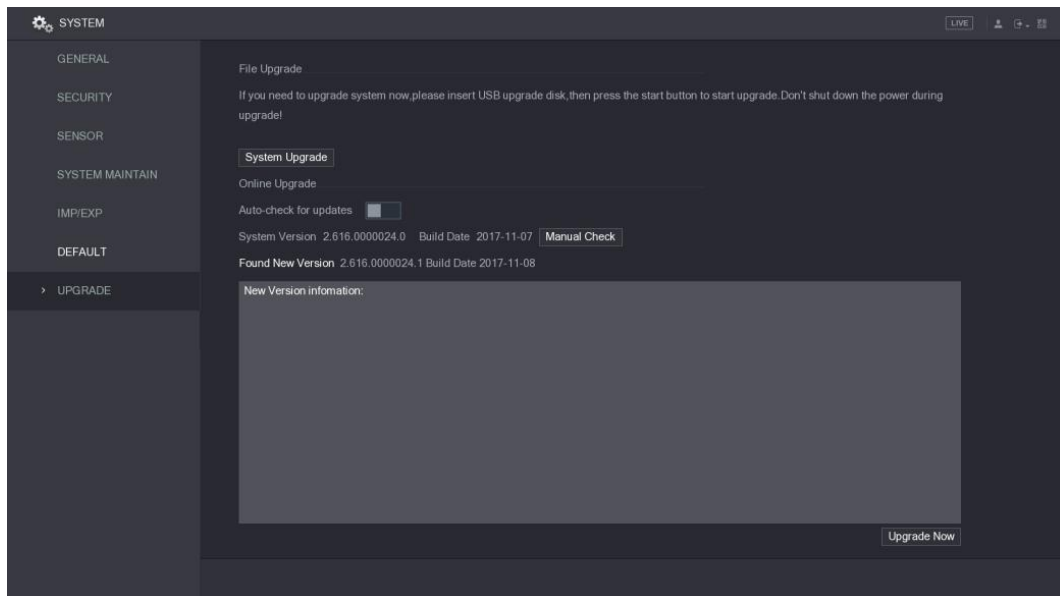

Figure 5-254
- If the text indicating there is a new version, please go the step 3. See Figure 5-254.